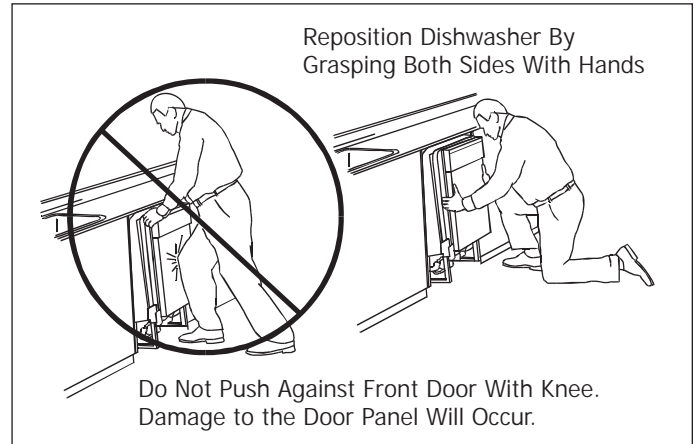

Figure 2-13.
1. Slide dishwasher into the opening a few inches at a time. (See Figure 2-13)